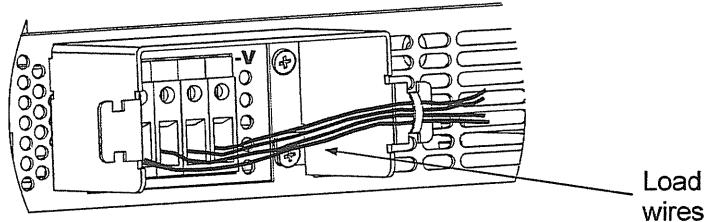

Fig.3-9: Protective shield and wires assembly
- f) Tighten the wires to one of the shield sides using typ-wrap or equivalent. Refer to Fig.3-9. Ensure that the wire length inside the shield is long enough to provide proper strain relief.